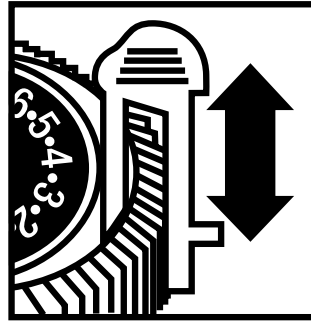
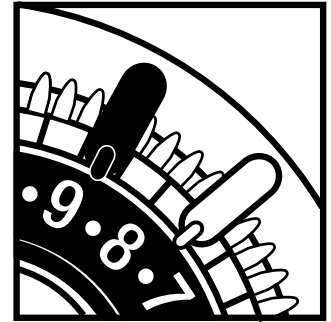

FIGURE 2
FIGURE 3
1. Insert ON (blue-green) and OFF (red) trippers into dial at desired ON and OFF times (Figure 2). Be sure trippers are firmly pressed down against dial surface with at least one space between ON and OFF trippers (Figure 3).